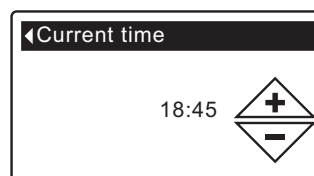

FIG. 38
5. Press the OK/MENU button to display the Current time screen (See Figure 38).